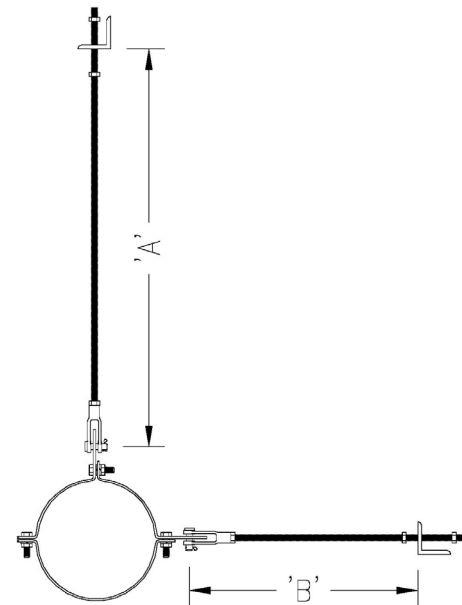

Figure 1
1. Attach the Hanger as shown in Figure 1. Note that the longer threaded rod is vertical. It does not matter which side of the line the horizontal link lies on. However, where more than one hanger is installed, all horizontal links must be on the same side of the line.